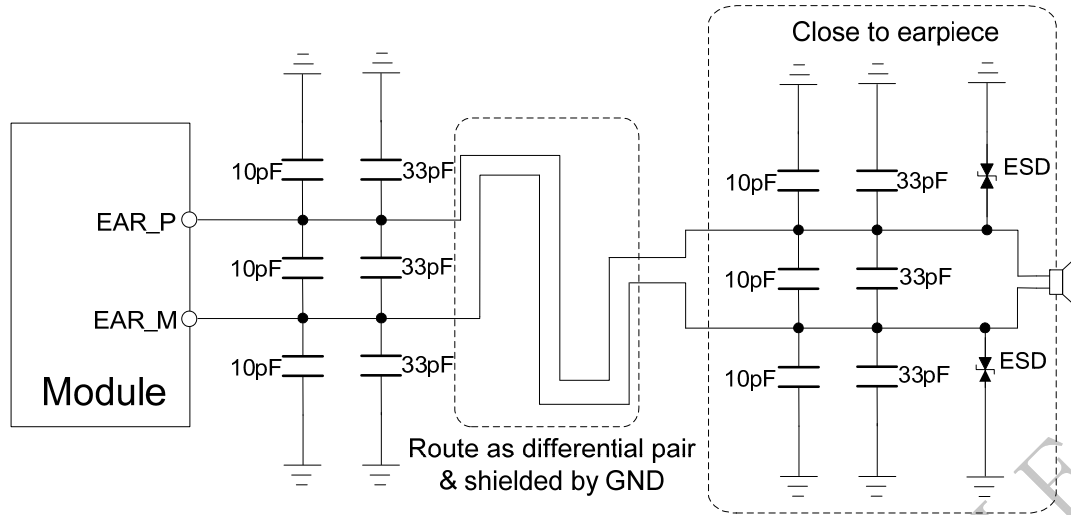

Figure 22: Earpiece reference circuit
A 100KΩ pull-down resistor is integrated at HPH\_L pin, which could be used for mechanical insertion or removal detection through HS\_DET pin. Figure 22 shows the reference circuit for normally-closed (NC) type headset jack.